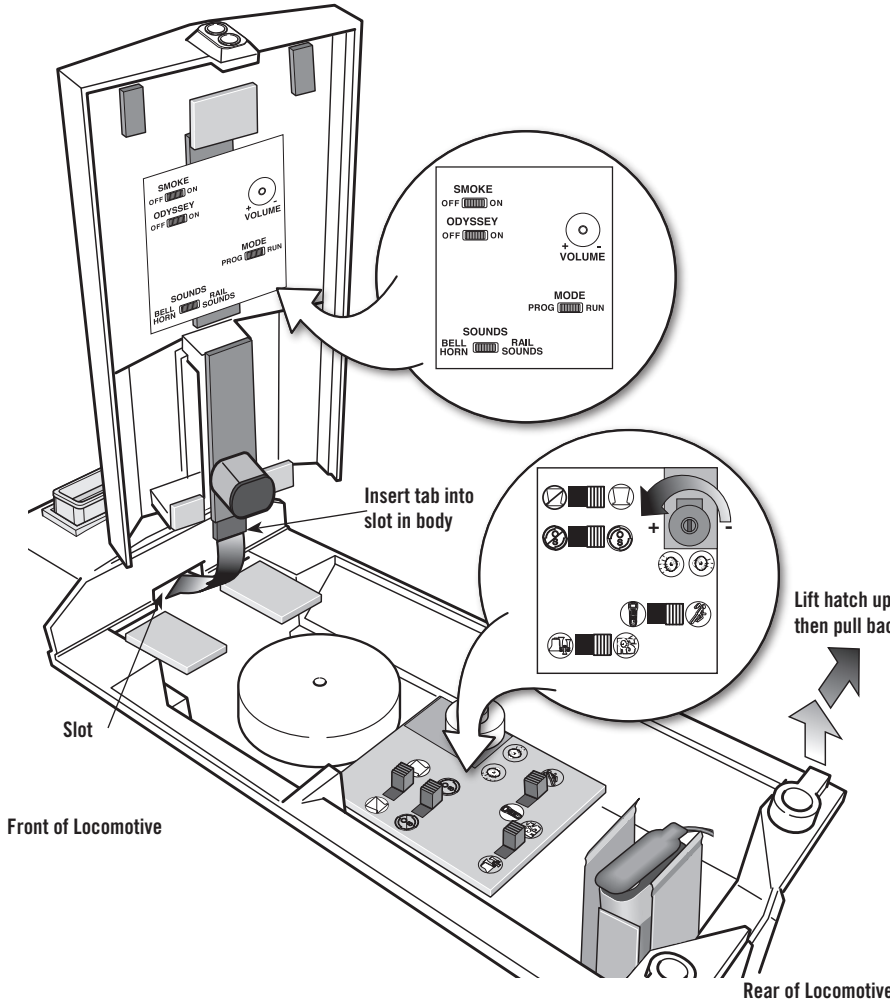

Figure 2. Locomotive switch locations
The switches that control the features and programming of your locomotive are located under the radiator roof hatch on the top rear of the locomotive. See Figure 2 on page 10. When you lift up the hatch these switches are visible with their icons. Icons on the left hand side show the ON or RUN positions. Icons on the right hand side show the OFF or PROGRAM positions. On the inside of the lift off hatch, there is also a legend with words that help describe the function of each switch.
1. Lift the radiator roof hatch off the rear of the locomotive body by lifting up at the rear and pulling back. See Figure 2 on page 10.
5. Replace the radiator roof hatch on the body by inserting the tab at the front of the radiator fan housing and placing the rear on the magnets. See Figure 2 on page 10.